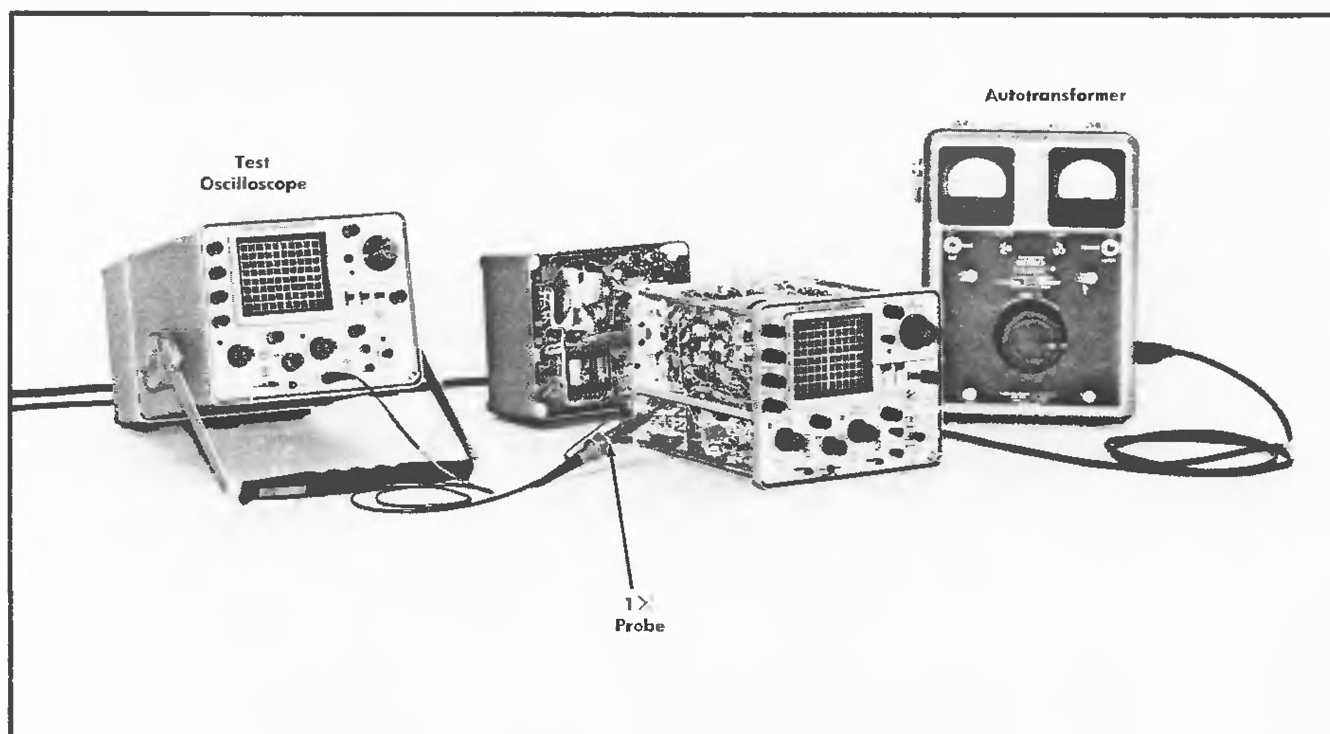

Fig. 6-6. Initial test equipment setup for steps 3—5.
- Test equipment setup is shown in Fig. 6-6.